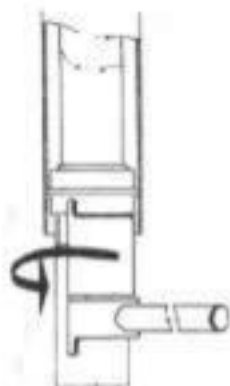

Fig. 37 – Tightening of nut with seal ring
- unscrew the nut c/w seal by means of fixture No. 18 (fig. 37)